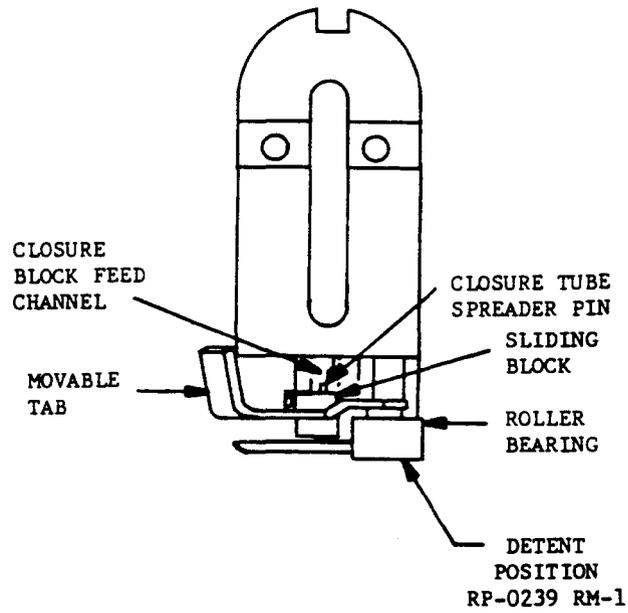

FIG. 8 REAR VIEW OF R-4411 L1
5.63 Slide the moveable tab protruding from the side of the tool all the way to the rear, allowing the roller bearing to properly seat in the detent groove provided in the end of the tool (refer to FIG. 8).
5.72 Slide the moveable tab (FIG. 8) located on the side of the tool all the way to the rear allowing it to seat in the detent.
(a) With air pressure applied to the tool, pull the moveable tab (see FIG. 8) slightly toward the rear of the tool and maintain at that location - this relieves all pressure on the closure blocks contained in the tool.